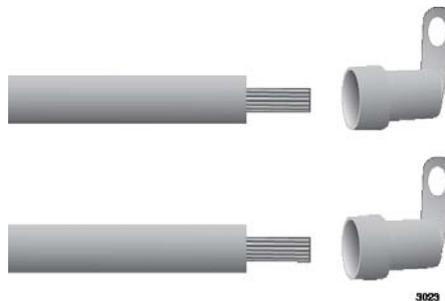

Figure 87. Attaching the Power Wires to the Right Angle Terminal Lugs
2. Insert the power wires into the terminals included with the power supply and use a crimping tool to secure the wires to the terminals. See Figure 87.